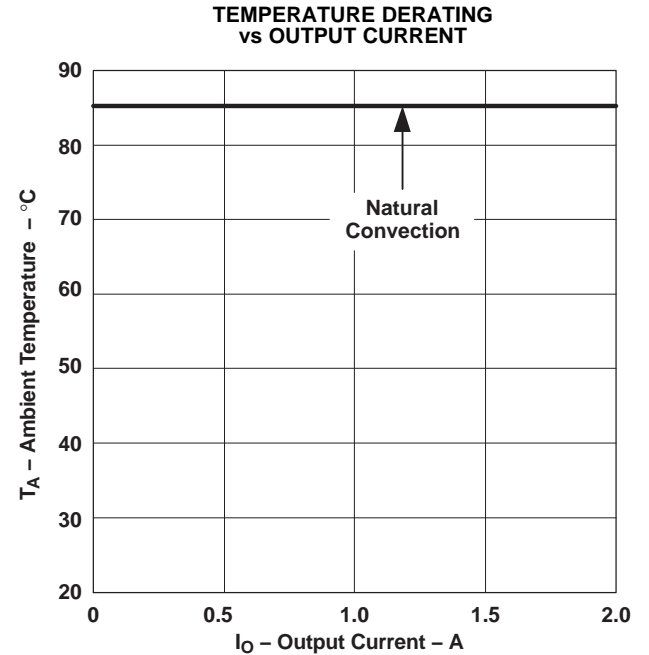

Figure 8.
- (4) The temperature derating curves represent operating conditions at which internal components are at or below manufacturer's maximum rated operating temperature. Derating limits apply to modules soldered directly to a 100-mm x 100-mm, double-sided PCB with 2 oz. copper. For surface mount packages, multiple vias (plated through holes) are required to add thermal paths around the power pins. Please refer to the mechanical specification for more information. Applies to Figure 8.